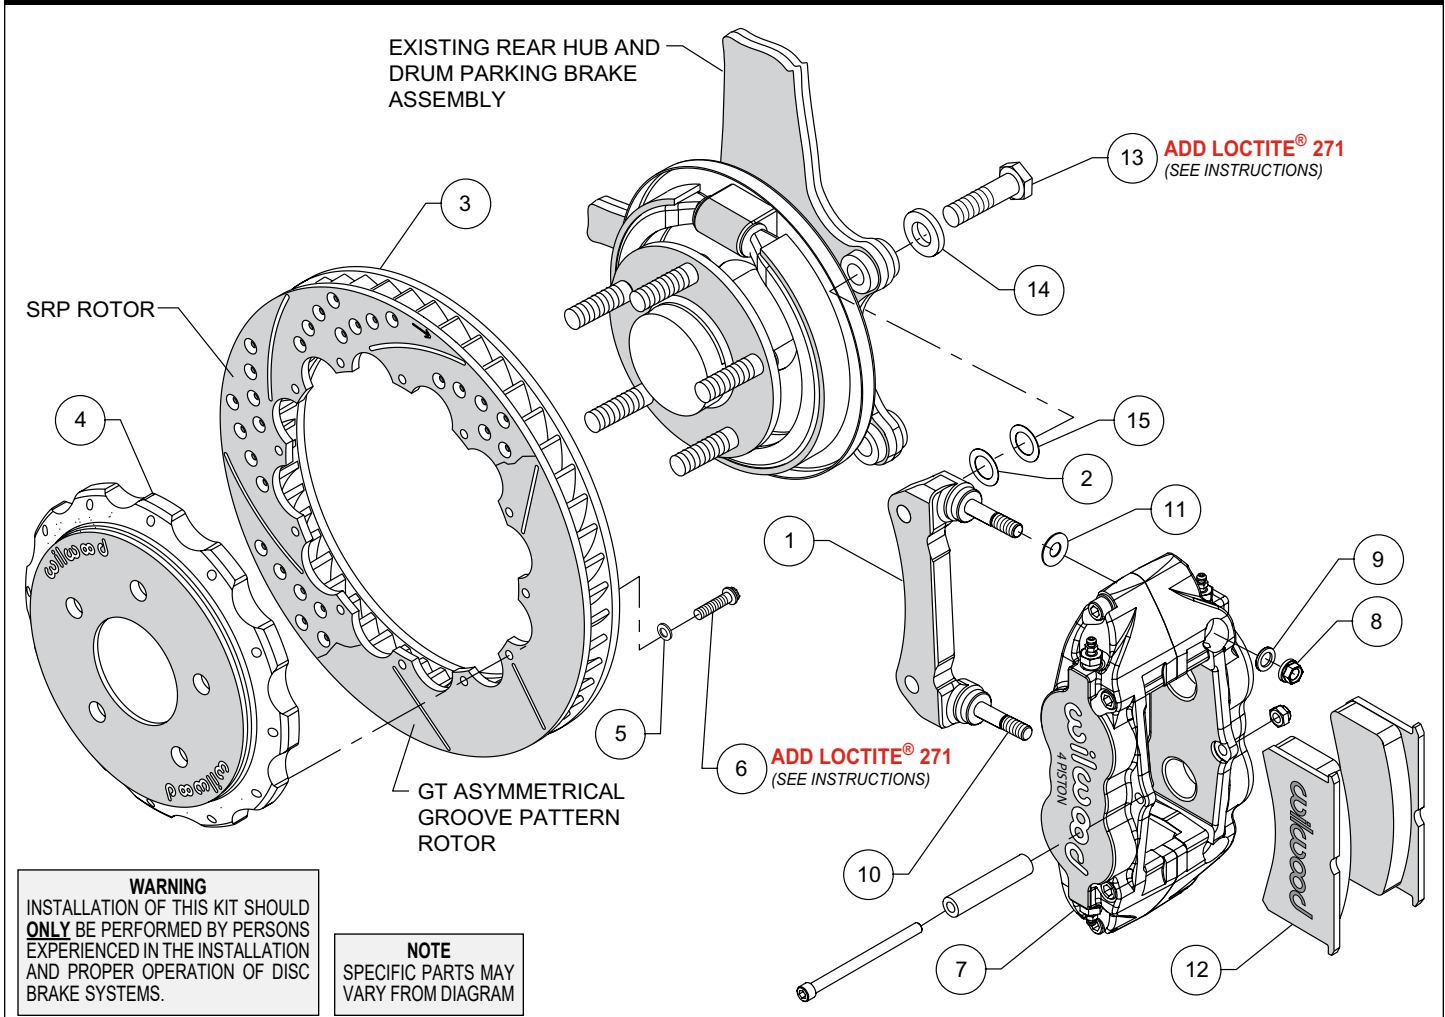
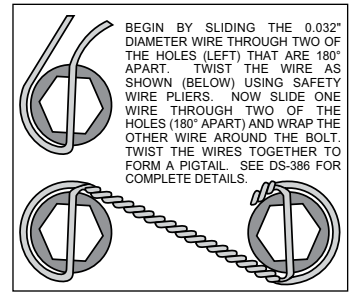

Figure 1. Typical Installation Configuration
Figure 3. Safety Wire Diagram
**Assembly Instructions** (numbers in parenthesis refer to the parts list and Figure 1 on the preceding pages):
- The caliper mount bracket (1) should initially be installed with clean, dry threads on the mounting bolts. Orient the bracket, as shown in Figure 1 and install using bolts (13) and washers (14). Initially place one .029" thick shim (15) on each bolt between the bracket and upright, Figure 1. Temporarily tighten the mounting bolts. **NOTE: The bracket must fit squarely against the mount bosses on the upright.** Inspect for interference from casting irregularities, machining ridges, burrs, etc. Later, after the caliper alignment has been checked, the mount bolts will be secured using red *Loctite*® 271.
- Orient the rotor (3) and the hat (4) as shown in Figure 1 and Photo 1. Attach rotor to hat using bolts (6) and washers (5). Apply red *Loctite*® 271 to the bolt threads and torque to 155 in-lb using a criss-cross pattern. For an added measure of security, the bolts may be safety wired using standard 0.032 inch diameter stainless steel safety wire as shown in Figure 3. Refer to Wilwood's data sheet DS-386 (available at [www.wilwood.com/Pdf/DataSheets/ds386.pdf](http://www.wilwood.com/Pdf/DataSheets/ds386.pdf)) for complete safety wire installation instructions.
- Initially place one .035" thick shim (11), on each stud (10) as shown in Figure 1 and Photo 2. Mount the caliper (7) onto the bracket (1) using lock nuts (8) and washers (9), Figure 1. Temporarily tighten the lock nuts and view the rotor through the top opening of the caliper. The rotor should be centered in the caliper, Photo 3. If not, adjust by adding or subtracting shims (2 and/or 15) between the bracket and the upright. Always use the same amount of shims on each of the two mounting bolts. Once the caliper alignment is correct, remove the bracket mounting bolts (13) one at a time, apply red *Loctite*® 271 to the threads, and torque to 77 ft-lb.